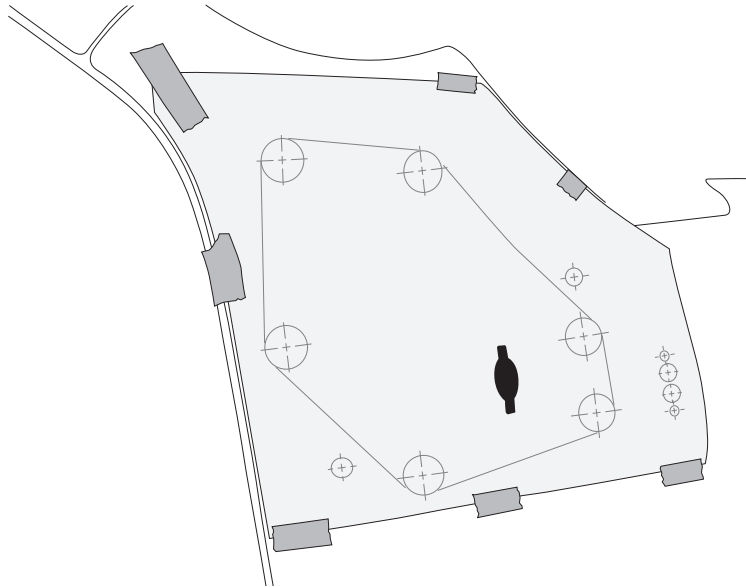

Figure 2
2. Tape in place so that the template sits flat on the surface of the vehicle everywhere with no wrinkles (Fig. 2).